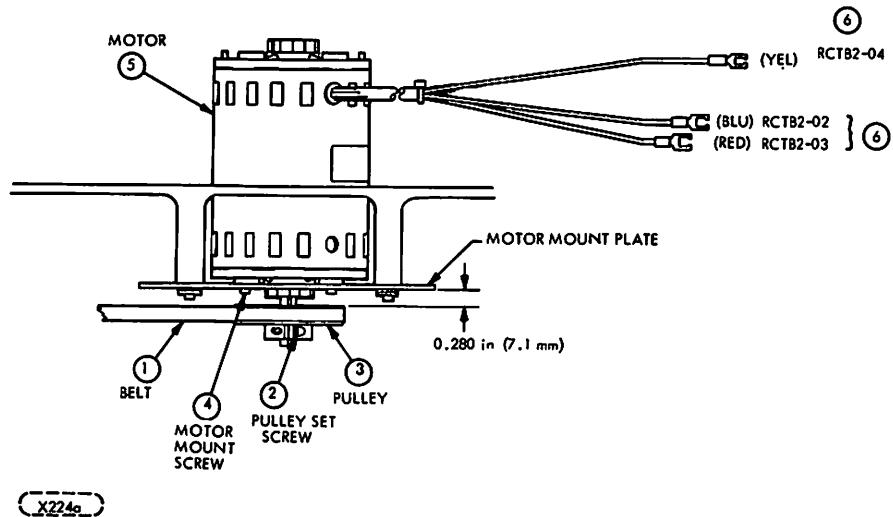

FIGURE 6-14. DRIVE MOTOR ASSEMBLY
Perform the following procedure to remove and replace the Spindle Motor Assembly. Refer to Figure 6-14.
2. Disconnect the motor wires which go to the Relay Control Board. See Figure 6-14 which shows the three wires (6) which go to RCTB2.
8. Replace the motor belt pulley. See Figure 6-14. Using a good scale for measurement position the pulley so that it is mounted on the shaft with the edge of the pulley 0.280 inches (7.1 mm) away from the plate surface as shown. Torque the screw in the collar to 64 lbf-in (7.2 Nm).
9. Reconnect the wires as shown in Figure 6-14.